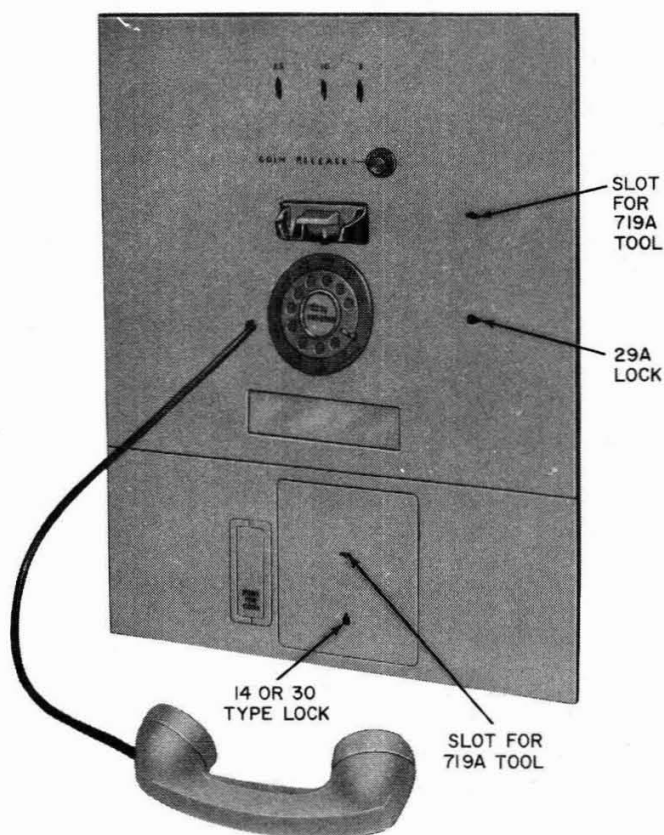

Fig. 1—235G Coin Collector
1.01 This section provides maintenance and connection information for the 235G and 1235G coin collectors. (Fig. 1 and 2).